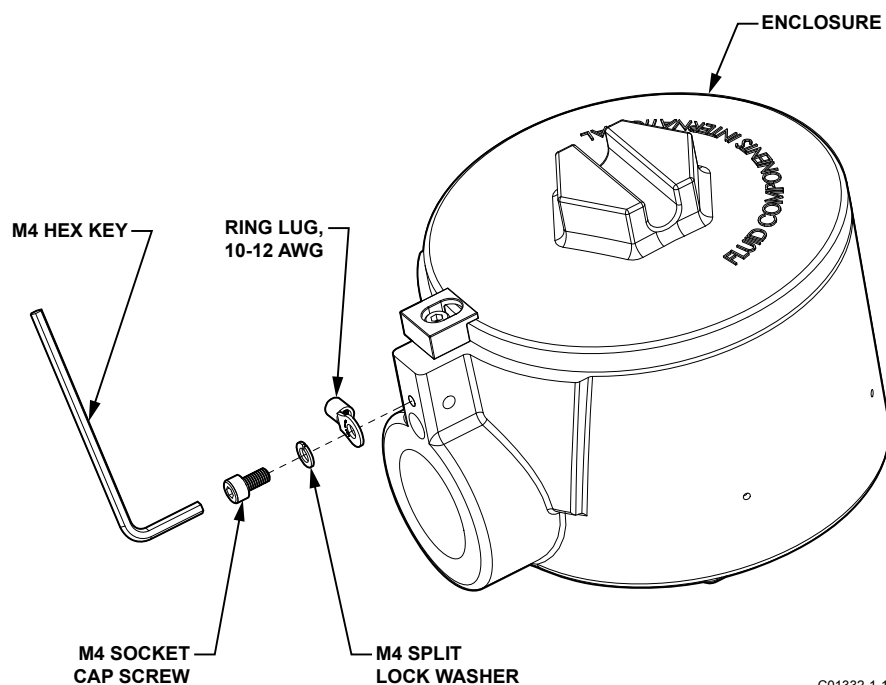

Figure 2-5 Removing Ground Wire Securing Hardware from Enclosure
2. Remove M4 socket cap screw, M4 split washer and ring lug from enclosure using M4 hex key (Allen wrench). The enclosure's ground wire hardware is installed at the factory. See Figure 2-5 below.